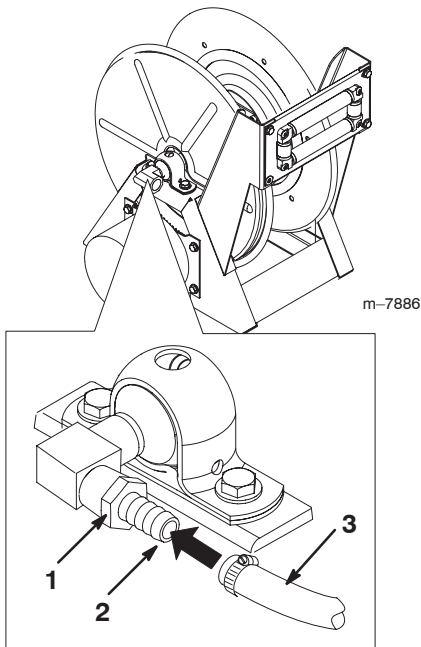

Figure 15
15. Wrap Teflon tape from around the threads of a barbed fitting (1/2 inch) while the face of the gauge is facing you and install it into the inlet port on the side of the hose reel (Fig. 15).
16. Connect the end of the hose to the fitting on the hose reel (Fig. 15) and secure both ends with 2 small metal hose clamps.